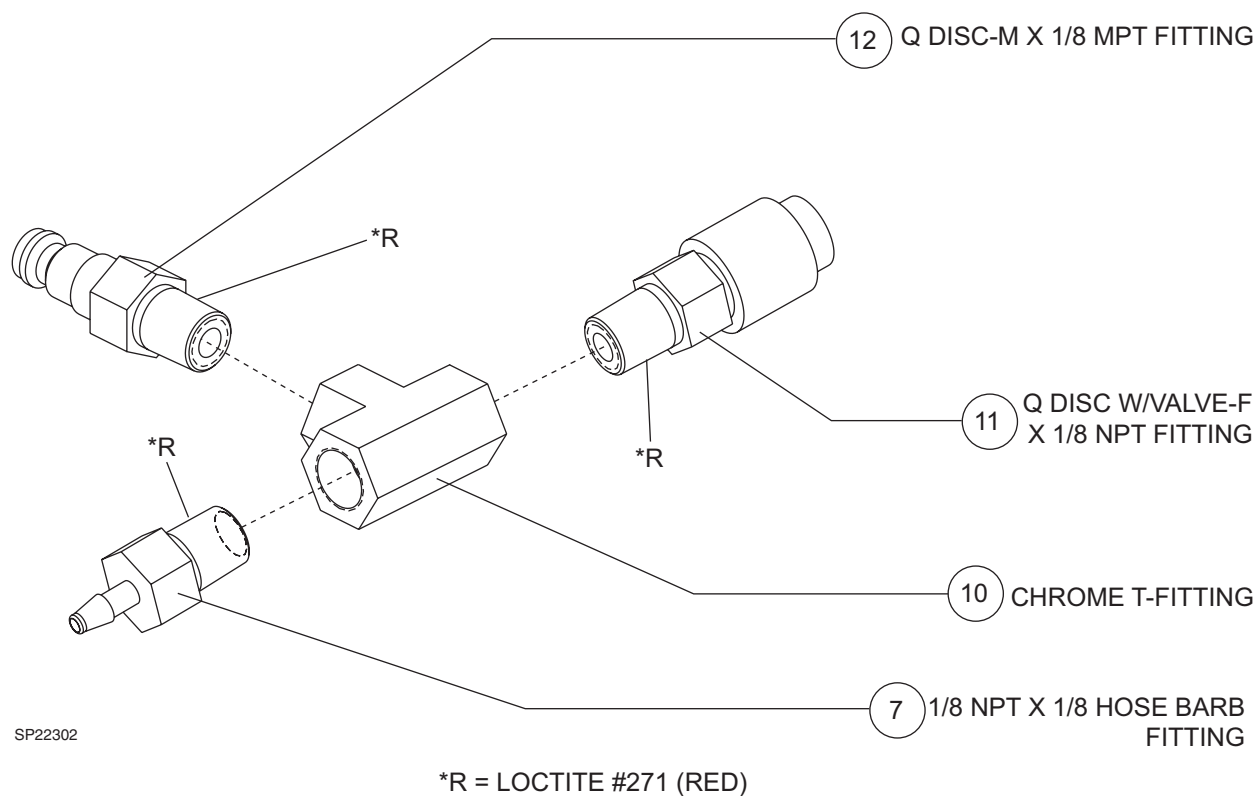

FIGURE 2. T-Assembly
4. Assemble the chrome T-fitting (10), 1/8 MPT Qdisc-M fitting (12), 1/8 NPT Qdisc-F fitting (11), and 1/8 NPT x 1/8
hose barb fitting (7) as shown in Figure 2. Use a small amount of Loctite #271 (red) on the threads of all fittings.